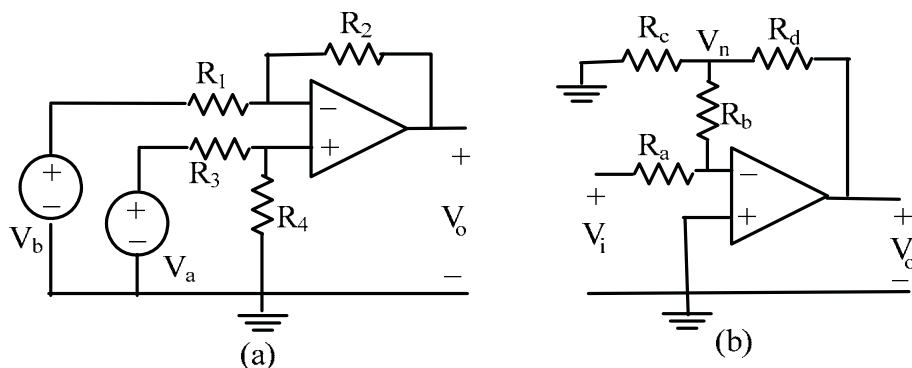

Figure 3.1
**OPERATIONAL AMPLIFIER CIRCUITS** : The general objective of opamp circuit analysis is either to obtain the output voltage  $V_o$  for a given set of input voltages, or to find the voltage gain  $A_v = V_o/V_{in}$ . As mentioned in Appendix-B, the desired results are obtained by applying nodal analysis at the input terminal(s), together with the constraints given by the VOC & VSC principles, ie  $I_+ = I_- = 0$  and  $V_+ = V_-$  respectively. It is important to remember that when the ideal opamp is used, a nodal (ie KCL) equation can be written at all terminals, except at the output terminal, as explained in Appendix-B. For example, consider the two ideal-opamp circuits shown in Figure 3.1. Suppose that for the circuit of Figure 3.1(a), it is required to find  $V_o$  as a function of the two input voltages  $V_a$  and  $V_b$ , and for the circuit of Figure 3.1(b) it is required to find the voltage gain  $A_v$ . We shall now use nodal analysis, as indicated above, to obtain the desired results.
For the circuit of Figure 3.1(a), applying nodal analysis to the opamp input terminals, together with the VOC & VSC principles  $I_+ = I_- = 0$  and  $V = V_+ = V_-$  :
For the circuit of Figure 3.1(b), writing the nodal equation at the inverting input terminal and at the node 'n' (with  $V = V_+ = V_- = 0$ ) yields, respectively :